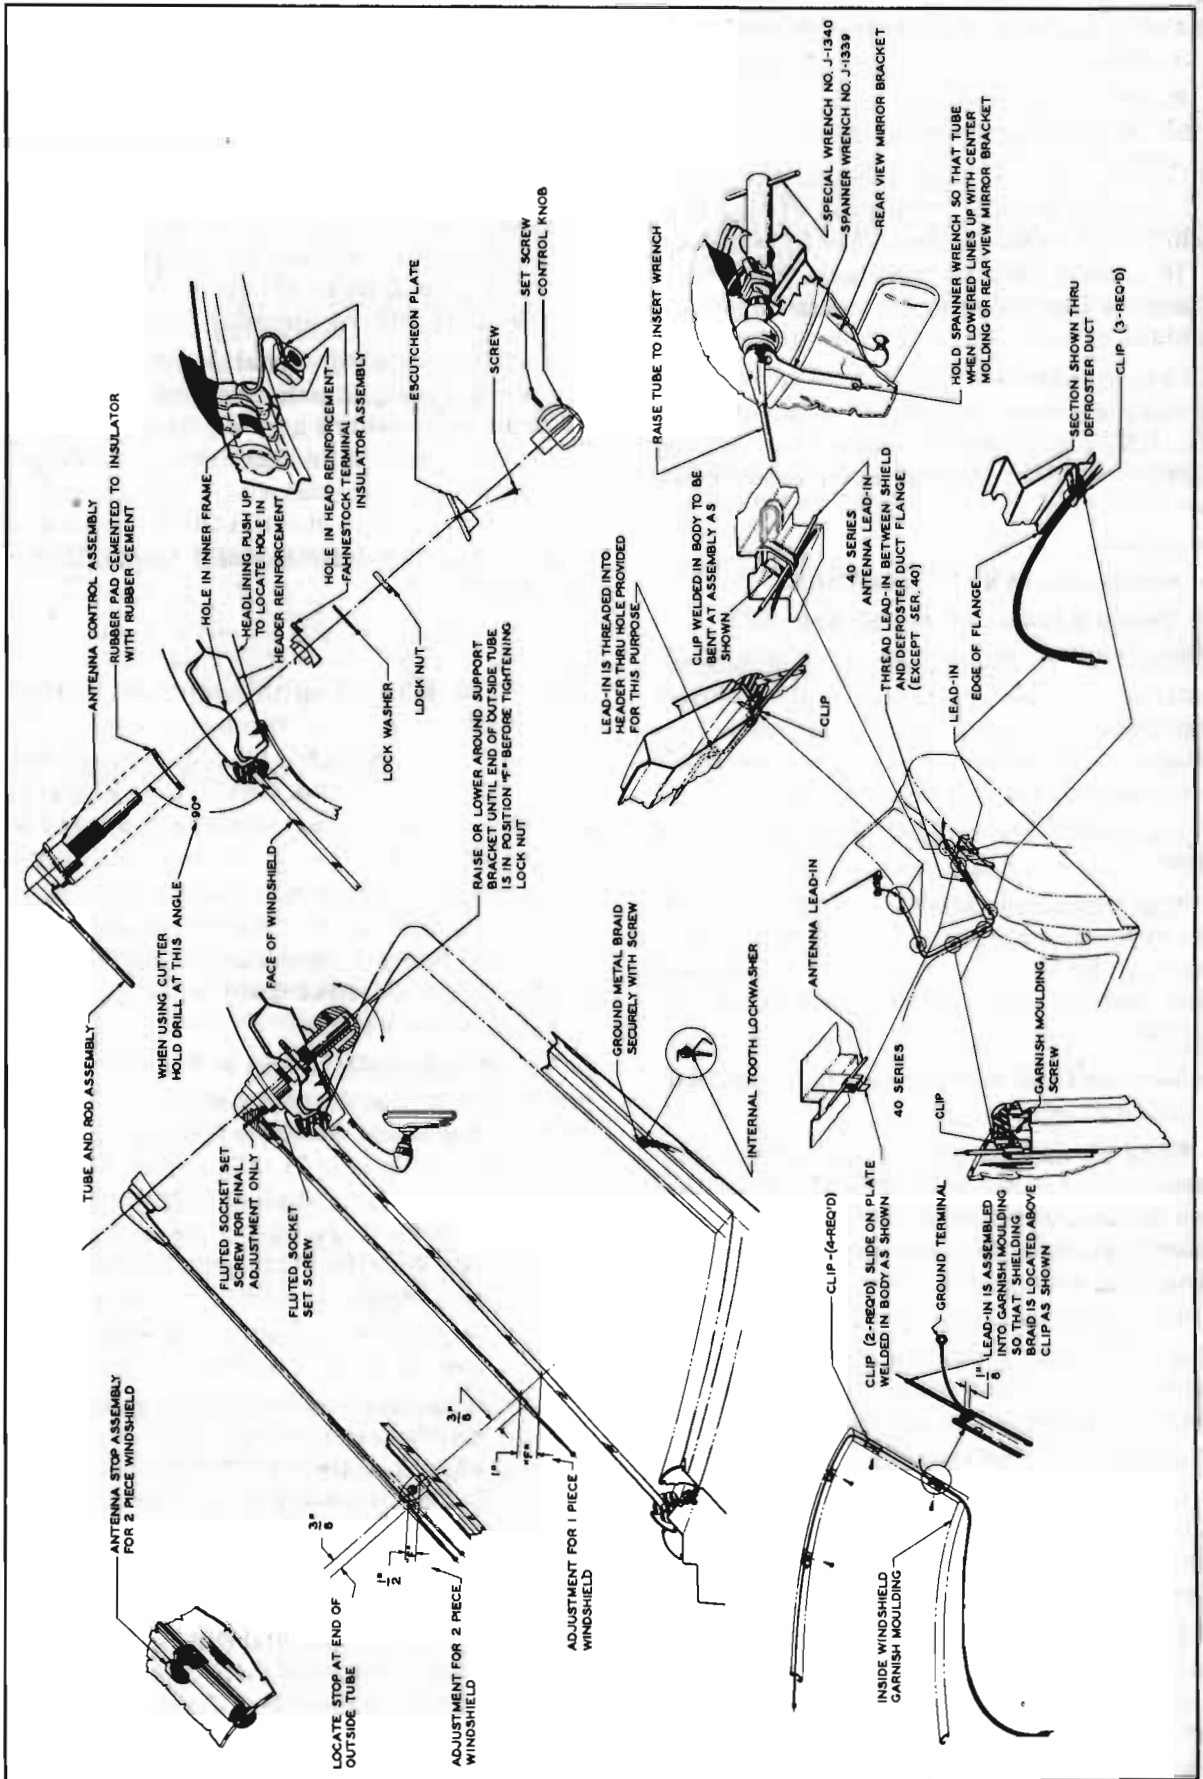

Figure 11-9—Antenna Installation Details—Closed Bodies and Model 45R
Clockwise rotation of the switch knob, to left of dial, turns the radio on, and further rotation increases the volume. Rotation clockwise of the tone control knob, behind the switch knob, to extreme "treble" position gives the full tone range which will reproduce speech very clearly and distinctly. Rotation counterclockwise toward "bass" diminishes brilliance and accentuates low notes. See figure 11-9.
6. Use the  $\frac{1}{8}$ " hole to pilot a  $1\frac{1}{8}$ " circular cutter and cut hole through roof panel while holding cutter at  $90^\circ$  to windshield glass. See figure 11-9. Remove masking tape from roof panel.
8. With shielding braid located above the lower right clip, attach cable ground terminal to body pillar where a screw hole is provided. Be sure to clean paint from pillar at this point and attach the terminal with a  $10-32 \times \frac{5}{16}$ " tapping screw, with internal-tooth lockwasher placed between terminal and pillar. See figure 11-9.
10. Remove glove box and attach lead-in cable to flange of defroster duct, using three clips. See figure 11-9. *Make certain that cable does not contact windshield drive cables,* then reinstall glove box.
11. If antenna tube and rod assembly is not assembled to the antenna control assembly, remove fluted socket set screw from control, insert tube so that the hole in tube aligns with screw hole in control then install and tighten set screw securely. Make sure that rubber pad is securely cemented to control insulator with rubber cement. See figure 11-9.
12. Insert bare end of lead-in wire into the Fahnestock terminal on the hard rubber insulator. Push the slack wire up into the hole, insert insulator up through the hole in the header reinforcement, and locate in the square hole of inner frame. The Fahnestock terminal must be located in the upper left corner. See figure 11-9.
14. Place tube in the "down" position and raise or lower the inside of the antenna control assembly until the end of the outside tube is  $\frac{1}{2}$ " from top of windshield division molding on jobs with two-piece windshield, or 1" from glass on jobs with one-piece windshield. See figure 11-9.
15. Using special Spanner Wrench J 1339 the man on outside must hold the antenna body so that tube, when lowered, will align with the windshield division molding on jobs having two-piece windshield or the rear view mirror bracket on jobs having one-piece windshield. *Securely* tighten the nut on inside, using Wrench J 1340. See figure 11-9.
17. On two-piece windshield job, install antenna stop on windshield division molding in location shown in figure 11-9, and tighten screws evenly.